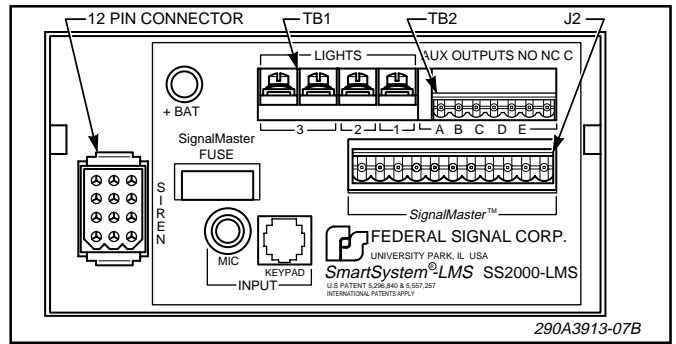

Figure 3-5. Rear View of SS2000-LMS.
The power cable included in the carton is equipped with a twelve-pin plug that mates with the connector on the rear of the Amplifier Unit (see figure 3-5). The cable is supplied with a 20-ampere in-line fuse. Additional wire (the same gauge or heavier) may be spliced to the leads as required. The various wires on the connector must be connected as follows:
5. See figures 3-5 and 3-10. Connect wires from the light bar or accessories to TB1-1 through TB1-3 or TB2-A through TB2-E as applicable. All wire connections for TB2 will be made with the right angle plug. (See face plate for relay designators.) Refer to the instructions packed with the light bar or accessory for proper wire gauge, current requirements, and any additional instructions. Do NOT exceed fuse ratings shown in table 3-1.